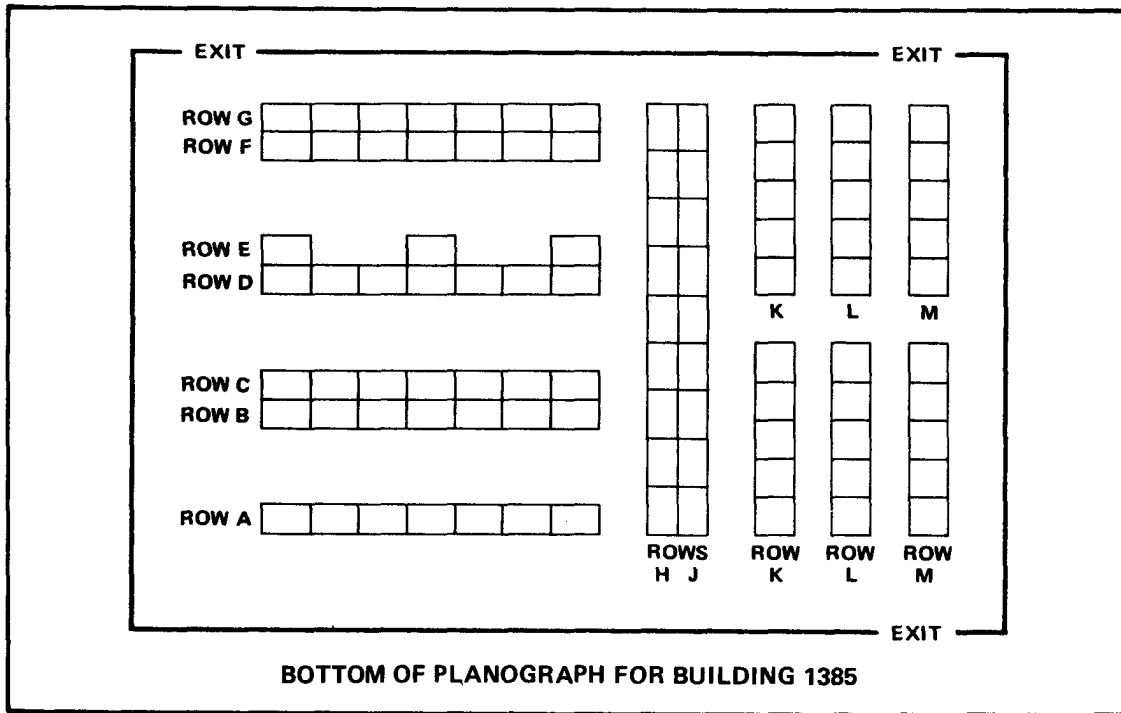

Figure 6-1. Planograph with storage rows labeled
- *Step 3.* Label the storage rows. If the rows on your planograph run across the page, label them in ascending order from bottom to top. If the rows run up and down, label them in ascending order from left to right. Figure 6-1 shows how to label storage rows.